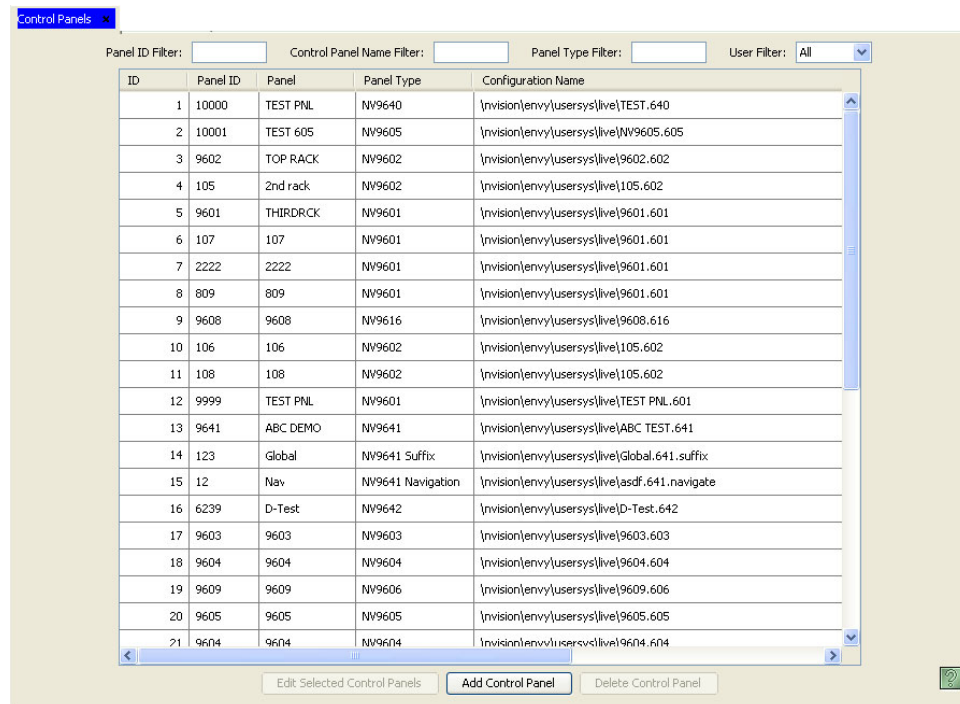

Figure 11-53. Control Panels Page
- 2 From the Navigation area, select the ‘Configuration’ pane and then ‘Control Panels’. The ‘Control Panels’ page displays, as shown in Figure 11-53. All control panels currently defined in the system are listed.